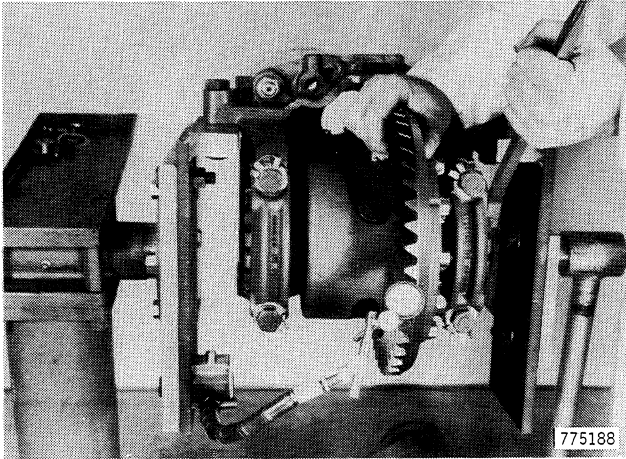

Figure 206
- 55. Turn adjusting nut on the side opposite the ring gear teeth in and the opposite nut out the same amount until clearance is between .007-.009 inch (0.17-0.22 mm), Figure 206.